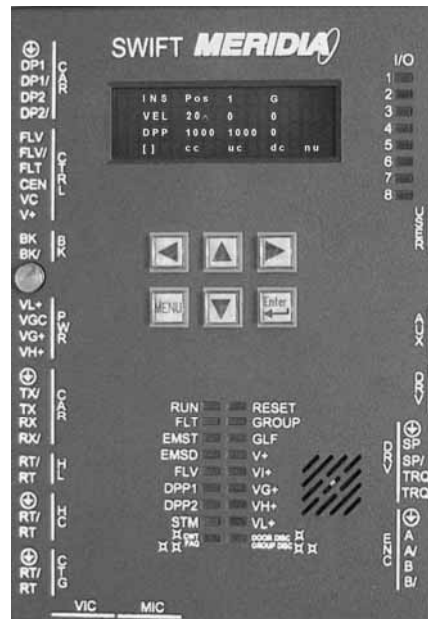

Figure 3-15
- Scroll down to **Set UP Mode Sel** (this mode allows you to move the car without the cartop devices installed) and press <ENTER>. This should start the STM LED to start flashing orange. [See Figure 3-15.]